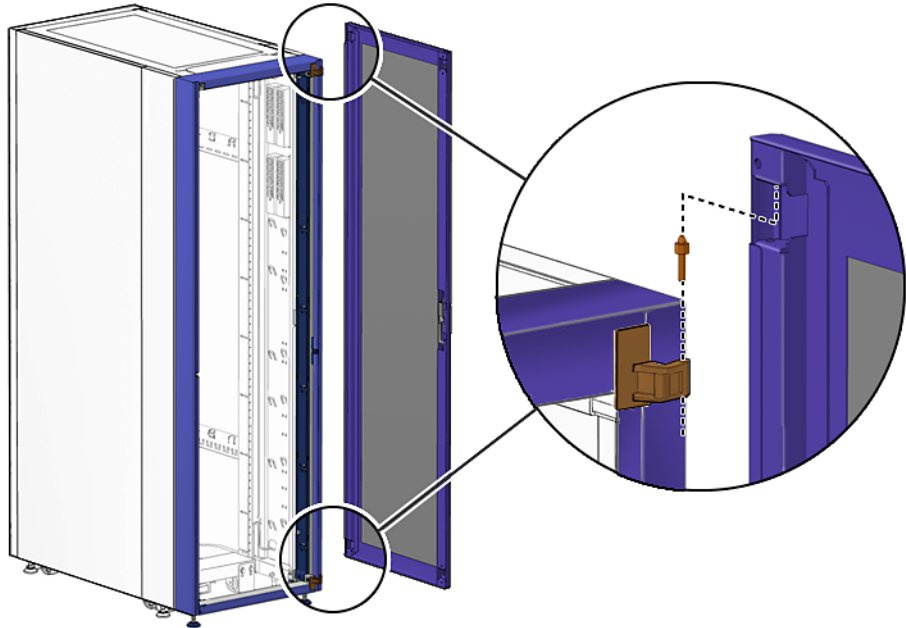

FIGURE 2-4 Lifting the Door onto the Sun Rack
| FIGURE 2-4 | Lifting the Door onto the Sun Rack | 9 |
7. Position the door over two of the hinge pins and lift the door onto the cabinet extension (FIGURE 2-4).